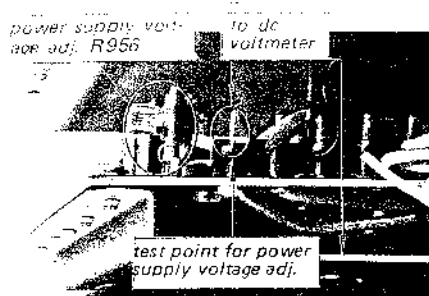

Fig. 3-1 Dc voltmeter connection and parts location
Connect the dc voltmeter to the test point as shown in Fig. 3-1.
3. Adjust semifixed resistor R956 (see Fig. 3-1) to obtain a 10V reading on the meter.